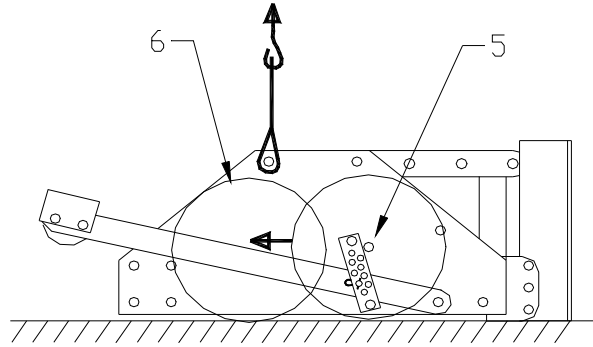

Fig. 2.
4. Lay the machine horizontal on a flat floor, as shown in Fig.2.
In fig.2. some key details of the machine are shown, as follows: